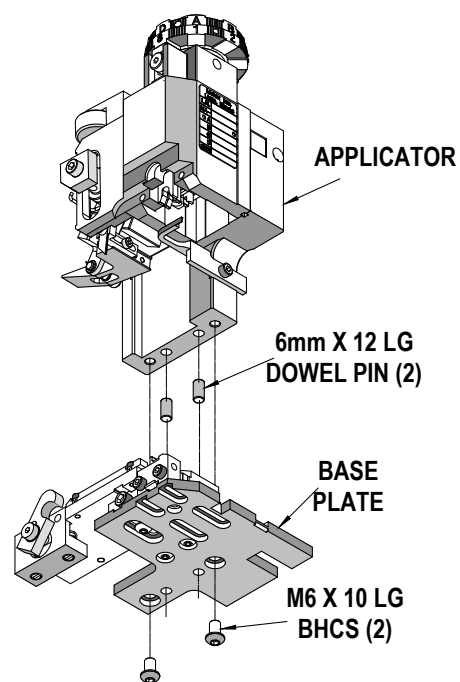

Figure 2-5
4. Some applicators require the removal of the applicator frame from the base plate. This is done by removing the two M6 BHCS located on the bottom of the base plate. See Figure 2-5.